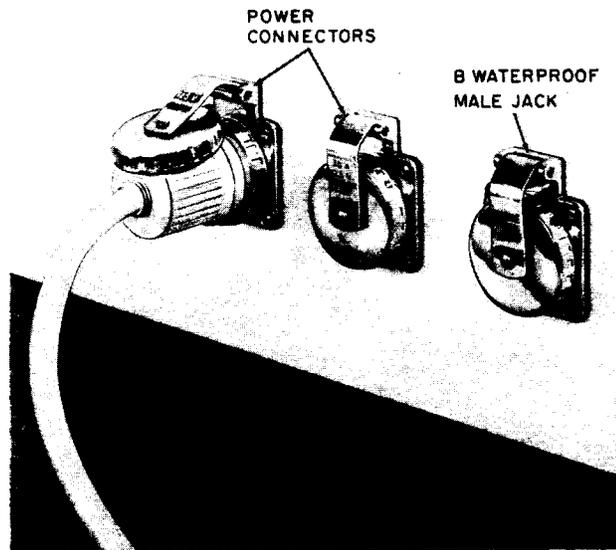

Fig. 21—B Waterproof Male Jack Mounted on Boat—Typical Installation
3.10 The owner of the boat should be given the B template to drill the mounting and clearance holes for the B waterproof male jack adjacent to the power plugs in the cockpit coaming or in the outer hull of the boat (see Fig. 21 through 24). The installer should not drill any holes on boats either for mounting or running wire.